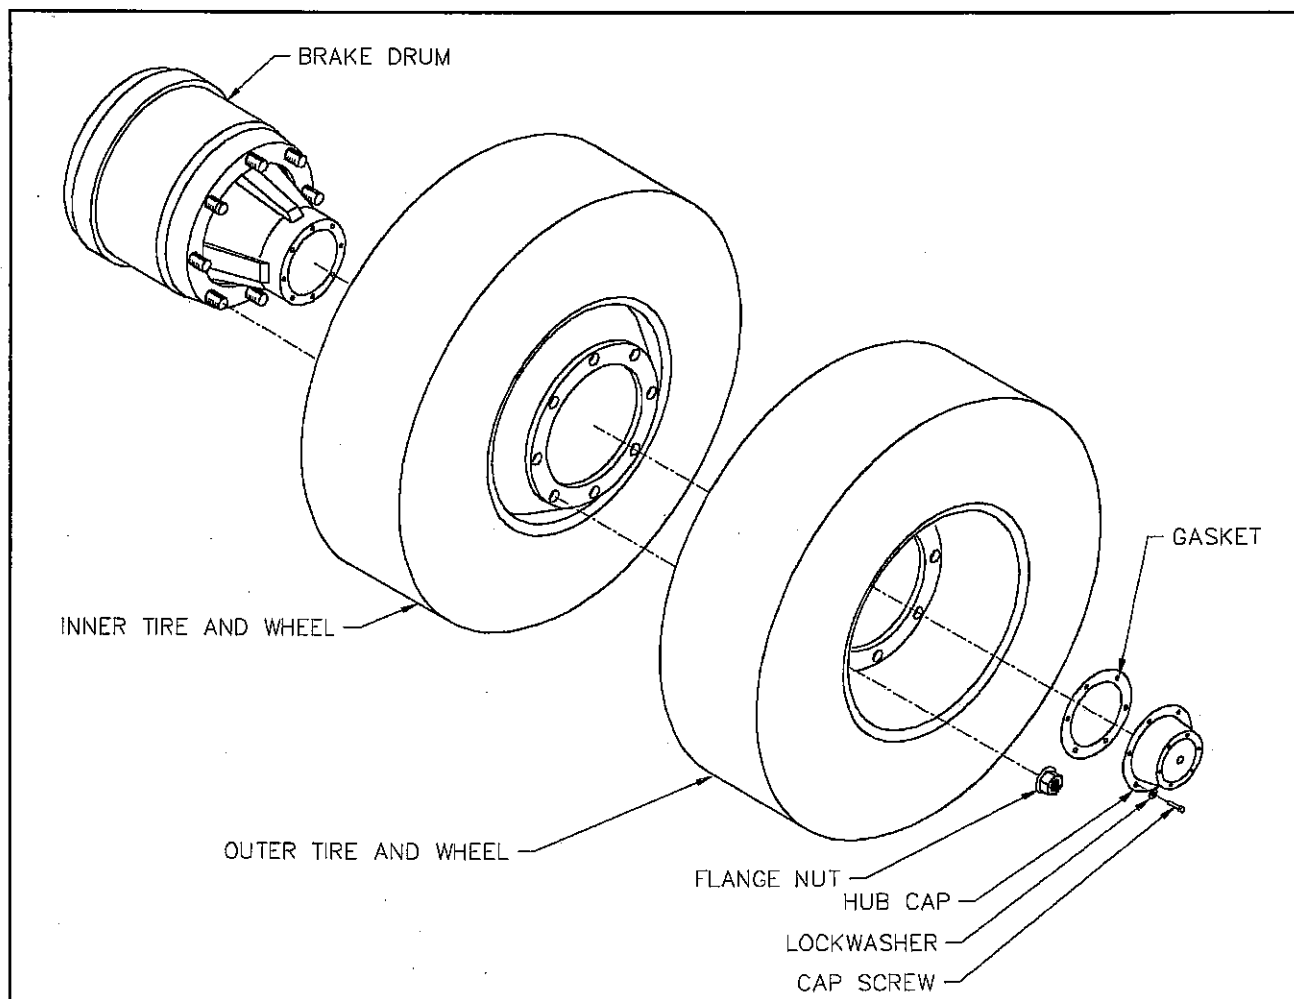

Figure 4-14 Mounting Tires and Wheels
a. Make sure that all mounting surfaces are clean and free of rust, dirt or paint. A wire brush may be used to clean these surfaces (see Figure 4-14).